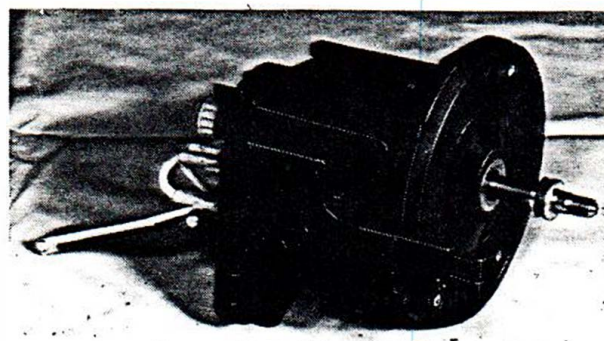

Figure 27. Spacer/Seal Position
- Spacer/seal assembly should be installed with the black rubber seal against motor housing as shown in Figure 27.